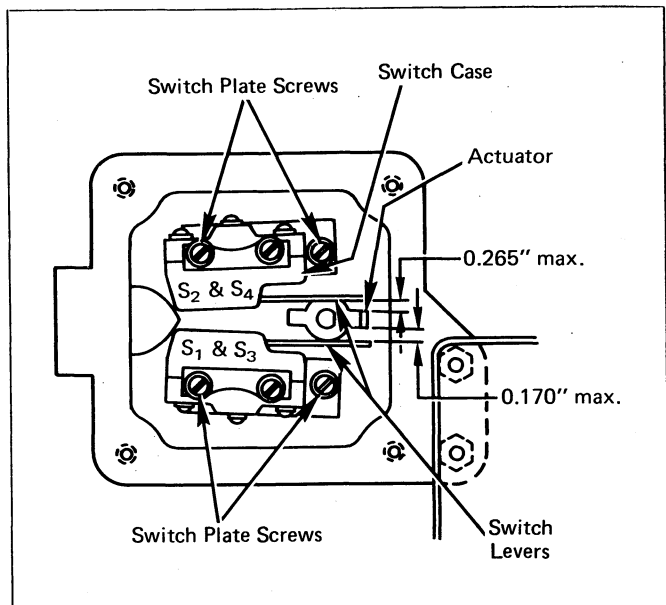

Figure 3. Switch Adjustment.
2. Insert a feeler gage of proper thickness specified in Figure 3 between the switch lever and actuator.